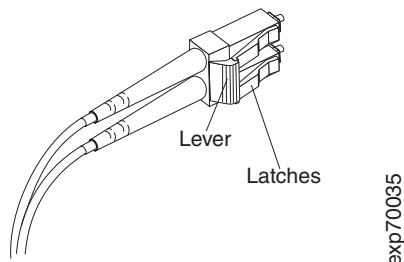

Figure 19. LC-LC fibre channel cable lever and latches
1. On the end of the LC-LC cable that connects into the SFP module or host bus adapter, press down and hold the lever to release the latches, as shown in Figure 19.